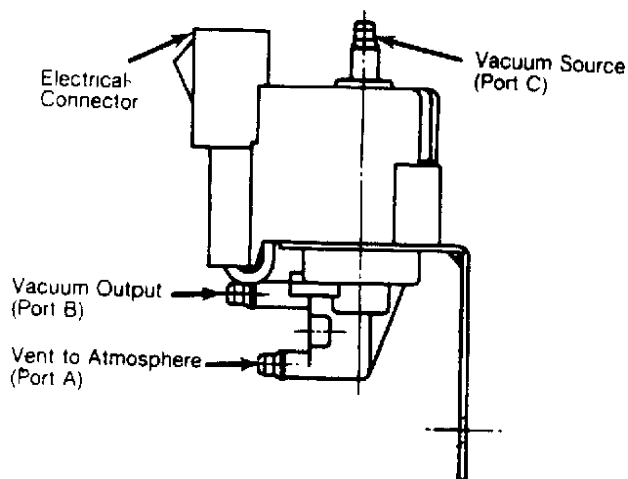

Fig. 6: Testing EGR Solenoid Valve
1) Make sure vacuum is present at port "C" of the solenoid. See Fig. 6. Remove vacuum connector from ports "A" and "B" of solenoid. Connect vacuum gauge to port "B". Start engine and run at idle. Vacuum should not be present at port "B".